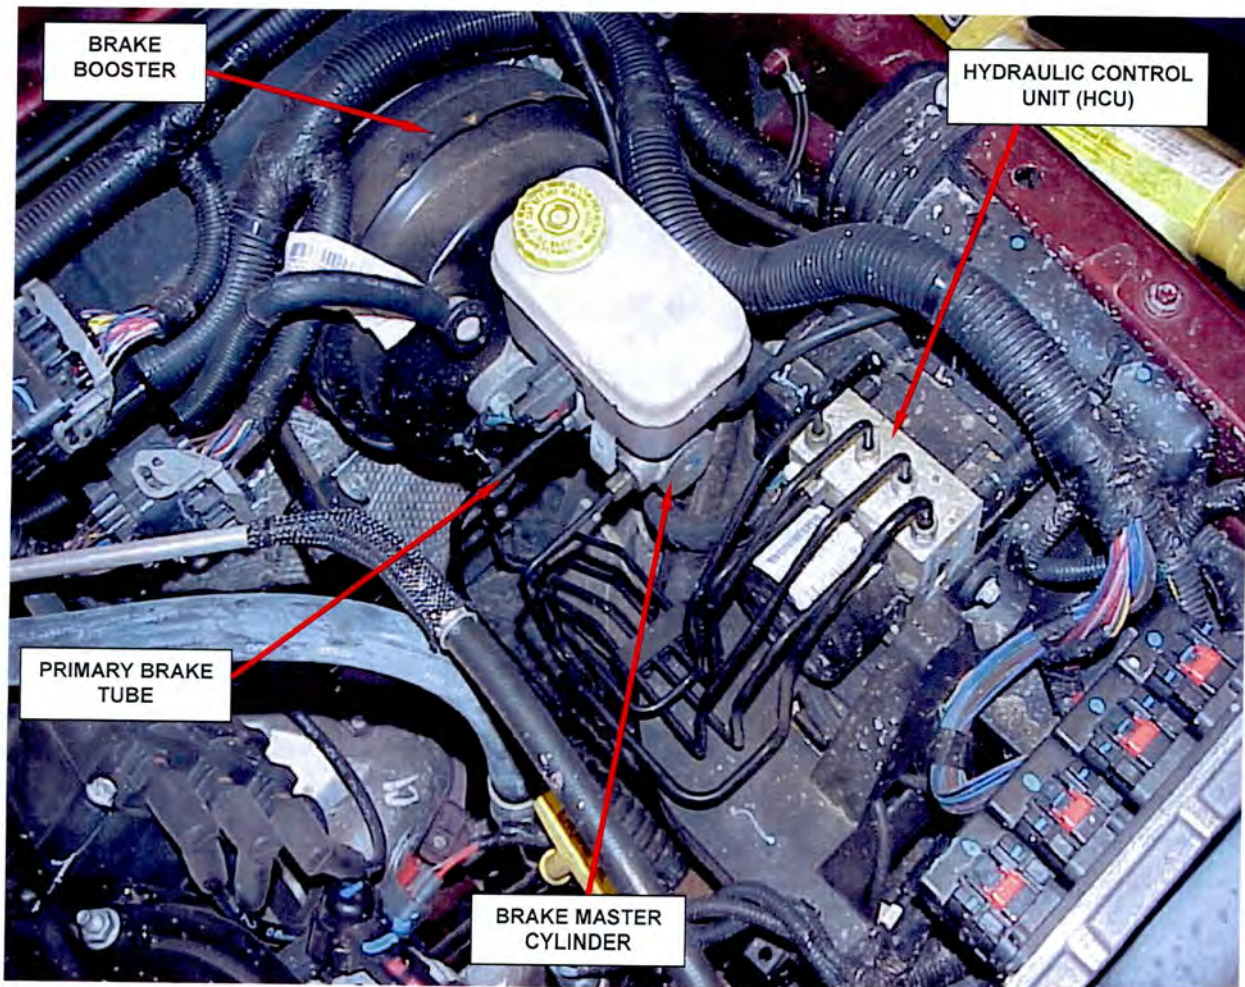

Figure 2 – Component Location
3. Disconnect the primary brake tube at the master cylinder (Figure 2).
4. Disconnect the primary brake tube at the HCU (Figure 2).